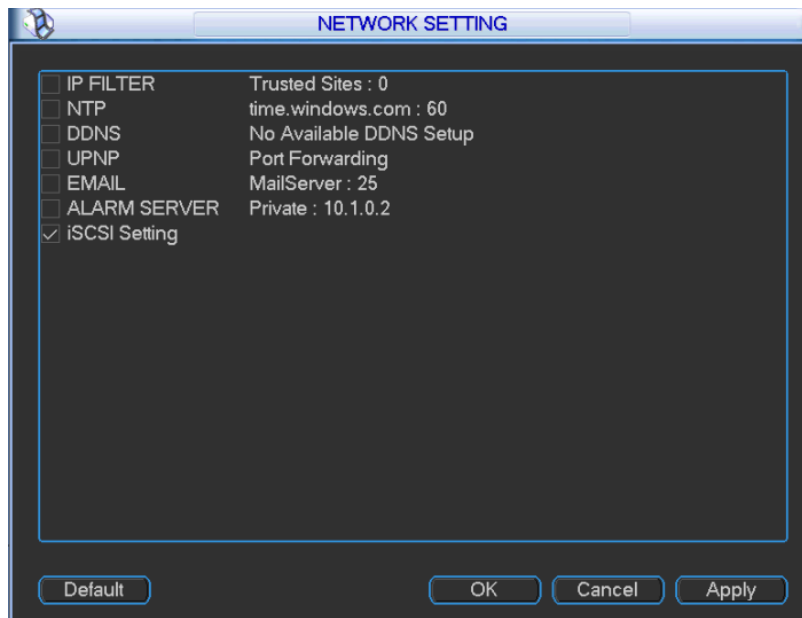

Figure 3- 4
- Network Setting: Click to enter LAN service setting as shown in Figure 3- 4. Refer to Ch 3.2.4.5.1 to Ch 3.2.4.5.8.